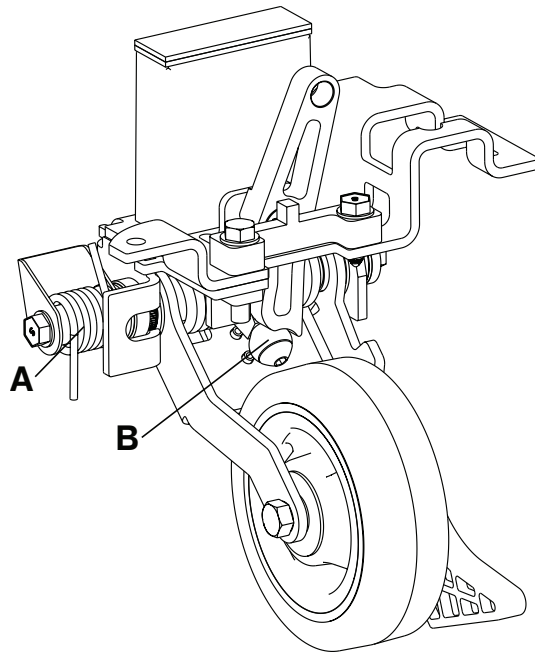

Figure 18 – Retractable fifth wheel lubrication
3. Apply MPG-3 grease to the spring (A) and roller (B) (Figure 18).